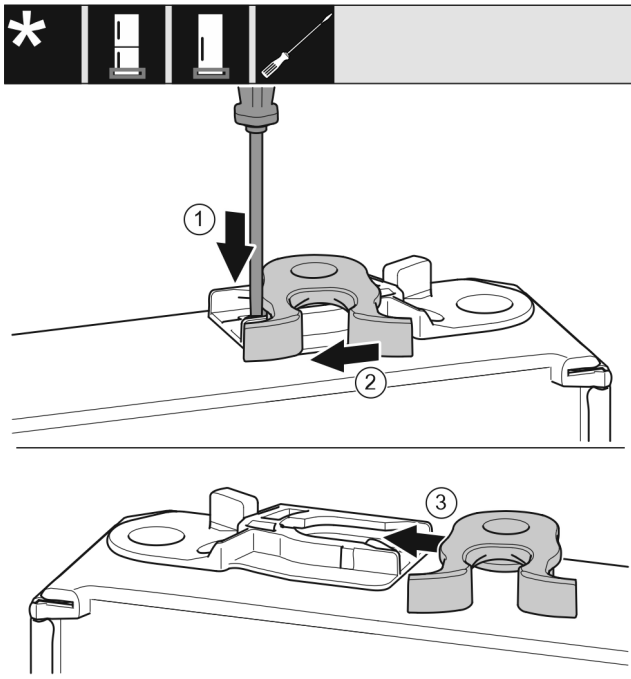

Fig. 18
- Use a slotted screwdriver to push the tab *Fig. 18 (1)* downwards.
- Pull the closing hook *Fig. 18 (2)* out of the guide.
- Insert the closing hook *Fig. 18 (3)* into the guide on the other side.